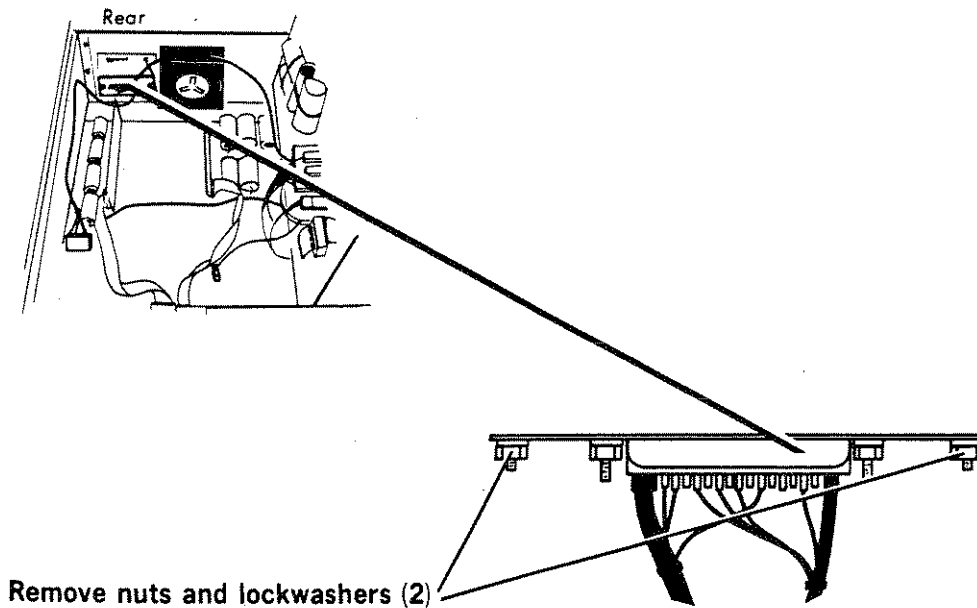

Figure 7-19. Unbolting the Test Connector
- STEP 2. Remove the two nuts and lockwashers that secure the Test connector and plate in place. Refer to Figure 7-19.